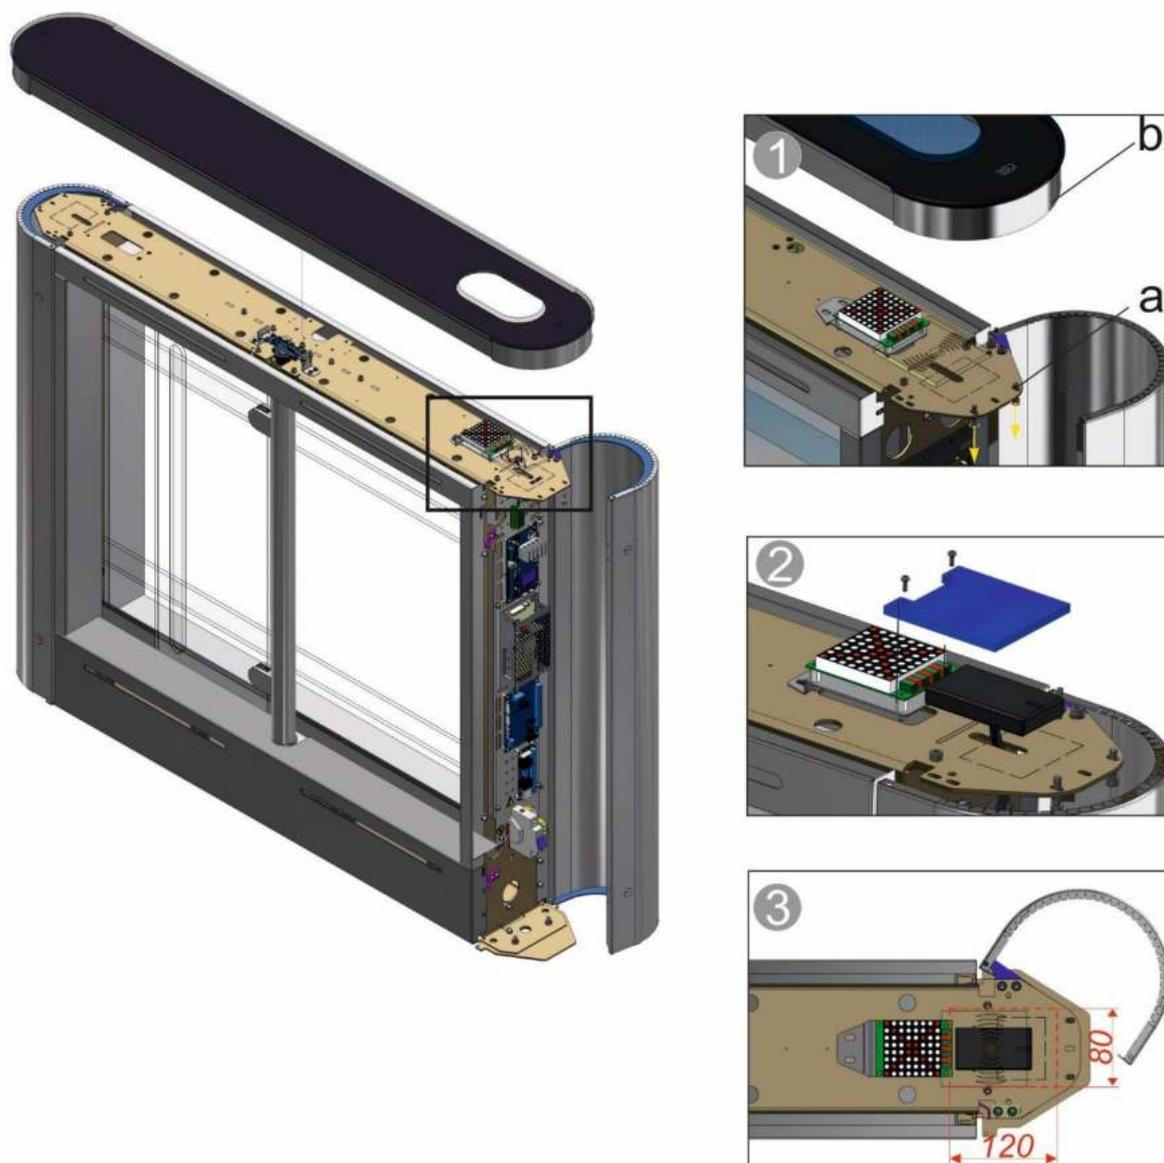

Fig.23 – Installation of card reader into the turnstile cabinet
- The turnstile lid *b* (or glass top) to be removed by unscrewing screws *a* from frame (*Fig.23*);